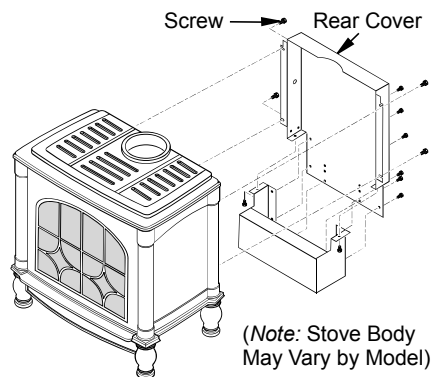

Figure 24 - Removing/Installing Rear Cover
- Remove 4 hex bolts securing rear cover to back of stove body (see Figure 24).
- Separate bottom cover from rear cover by loosening the 8 mounting screws (see Figure 24).
IMPORTANT: For clarity, gas valve assembly and grate/burner assembly are not shown in Figures 24 and 25. They will, however, be in your fireplace when you are installing the blower. Also for clarity the firebox is shown with dotted lines.